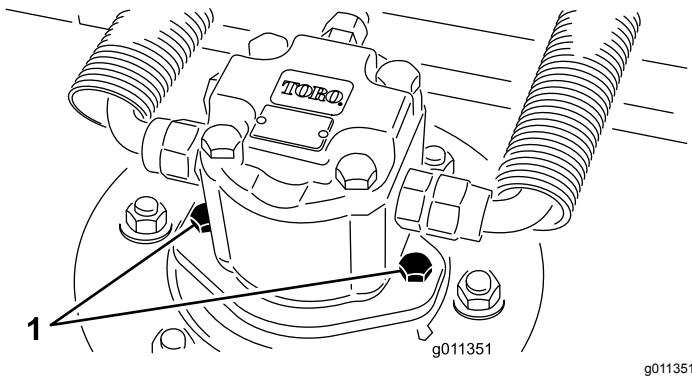

Figure 97
2. Disconnect and remove the hydraulic motor from the deck (Figure 97). Cover the top of the spindle to prevent contamination.
3. Install the hydraulic motor to the deck (Figure 97). Make sure that the O-ring is in position and not damaged.